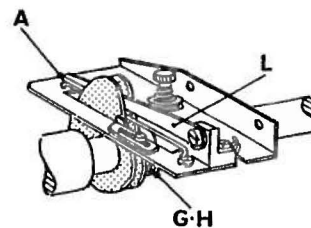

fig. 10
8. Adjusting the lower looper thread take-up cam (fig. 10) :